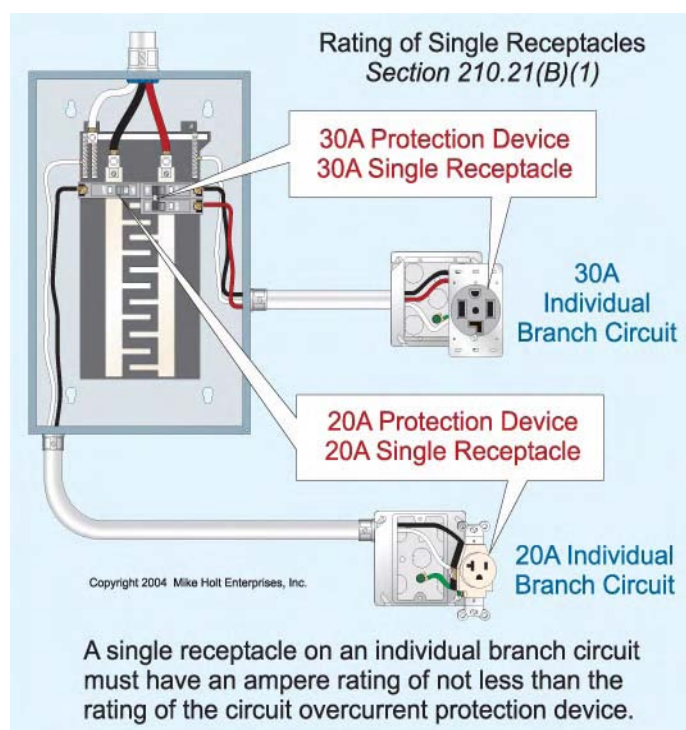

Figure 210–43
(1) Single Receptacle. A single receptacle on an individual branch circuit must have an ampacity not less than the rating of the overcurrent protection device. **Figure 210–43**